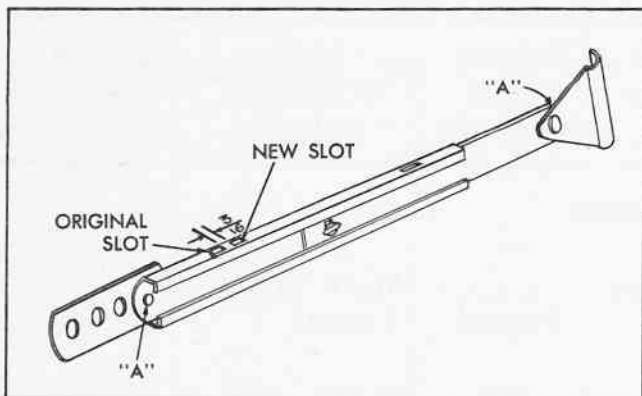

Fig. 7 Right Lift Gate Support - 1955 Safari Shown
3. At a distance  $3/16$ " above the original slot in the support used for locking the lift gate in the open (horizontal) position, make an additional slot of the same size. See Fig. 7. The use of this new slot in the right lift gate support when locking the lift gate in the horizontal position will eliminate any looseness between the inner and outer channels of the supports. Slot can be made as follows: